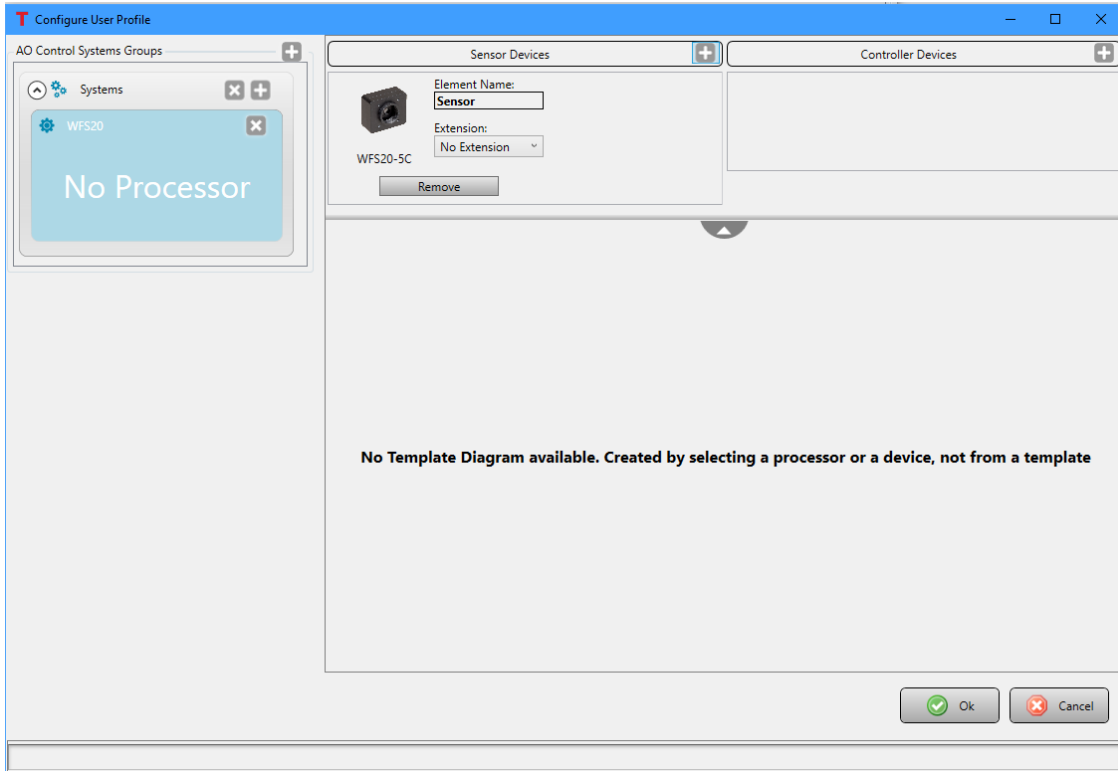

Figure 79 The Configure User Profile window is showing a newly created system titled WFS20. The linked device WFS20-5C is selected.
4. To add a device, click on the '+' icon (+) to the right of the **Sensor Devices** or **Controller Devices** category. This will show a list of available sensors or controllers attached to the system. Select the one to be linked with the newly created device only system. Doing so will add the device to the area below the **Sensor Devices** or **Controller Devices** heading, see Figure 79.